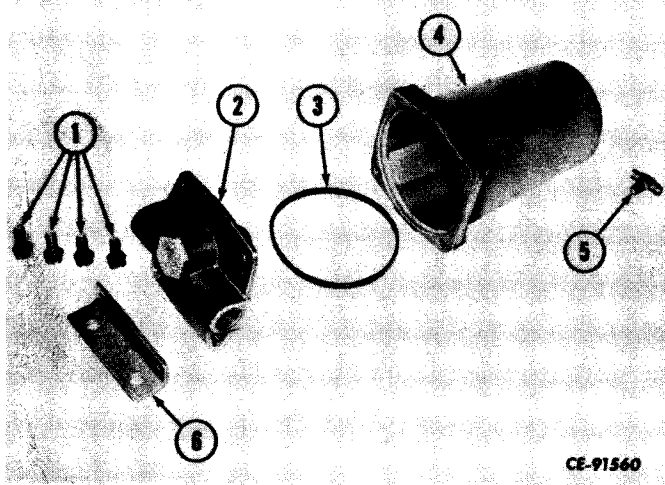

Figure 13-49
Remove cap screws (1, Fig. 13-49). Remove mounting bracket (6) and cover assembly (2). Remove seal (3) from cover and drain (5) from reservoir (4).
Install drain (5, Fig. 13-49) in reservoir (4). Install seal (3) in groove of reservoir. Install cover (2) on reservoir. Position bracket (6) on cover and install cap screws (1).